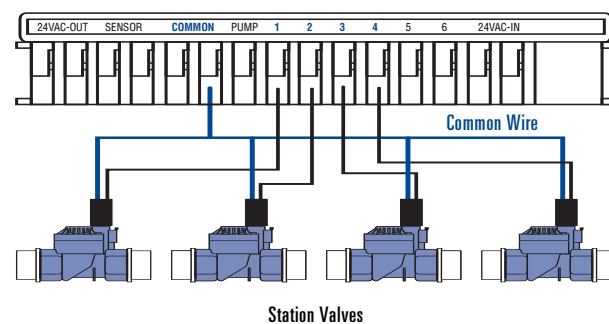

Figure 27: Connecting Sprinkler Wire
- Determine which valve you want to connect to which station. Connect each sprinkler wire (excluding the "Common" wire) to a separate station terminal (numbered above each blue tab) by inserting the bare wire fully into the hole under each tab. [See Figure 27]